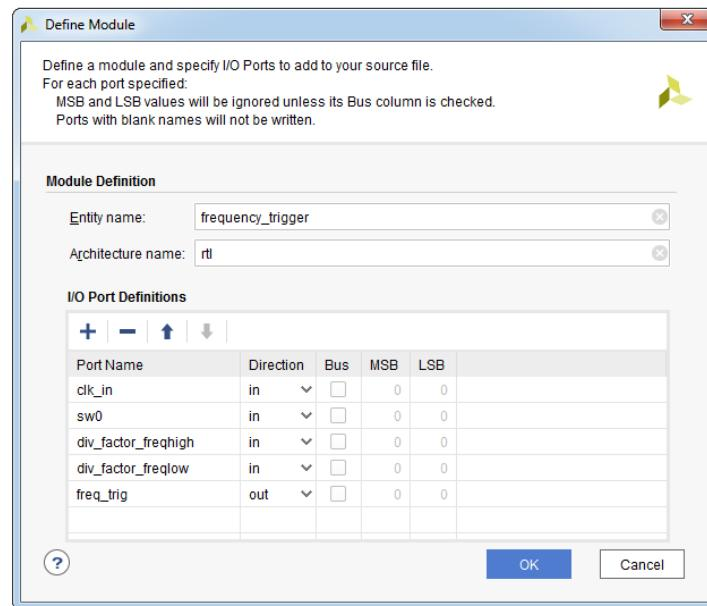

Figure 2.17: Define Module dialog box
9. Specify ports for the intended module as it is also shown on the Figure 2.17.